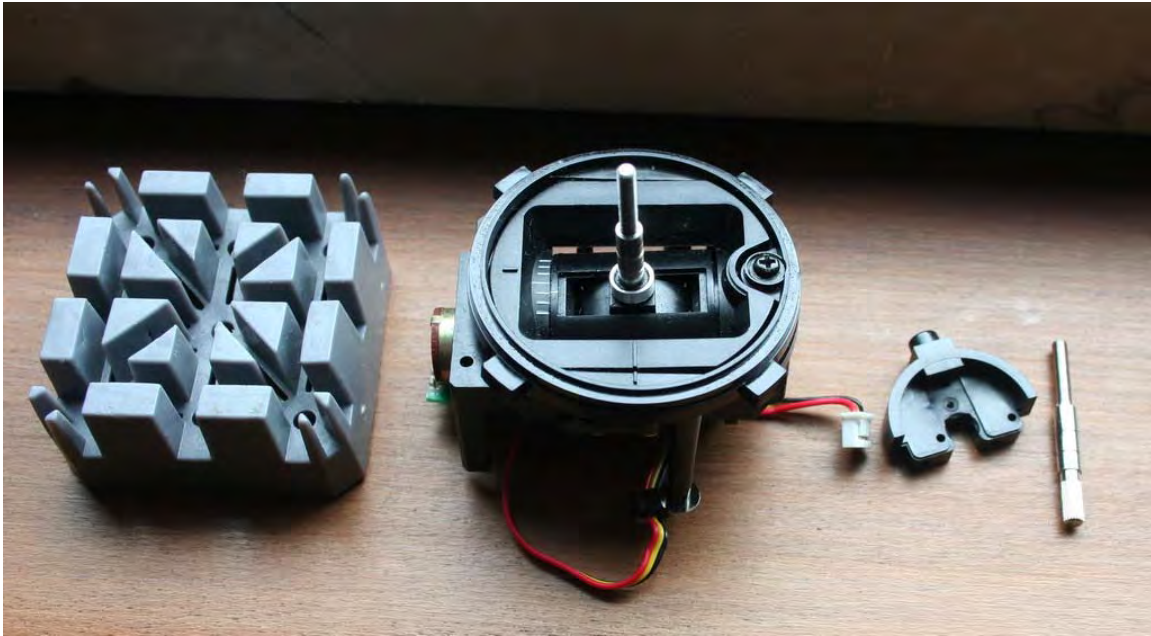

Figure 15 Joystick gimbal removed (Note: new joystick parts for replacement on the right)
1. Disassemble the transmitter as described in Section 3.4 "Full Access to Joystick Assemblies" and place the complete joystick assembly on the bench (see Figure 15).